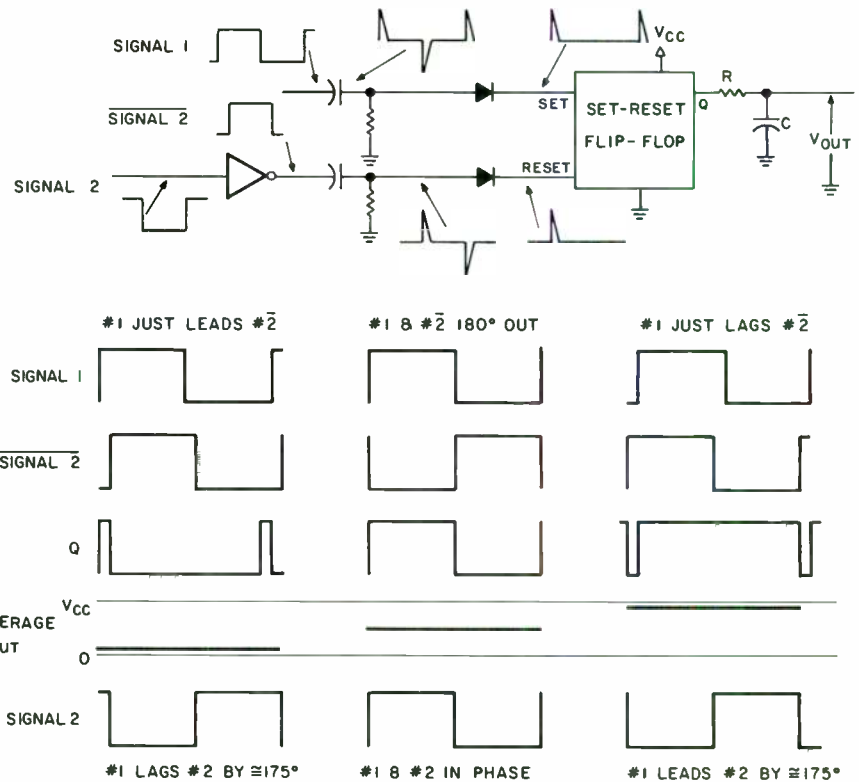

FIGURE III-1: Flip-Flop (FF) phase meter and waveforms.
FLIP-FLOP vs. EXOR. Figures III-1 and III-2 show two common ways of converting the squared up input signals into a phase reading. Figure III-1 shows the set-reset flip-flop (FF) approach, along with the waveforms involved. Signal 1 and inverted signal 2 (signal 2) are differentiated to get edges. One edge of each is used
Figure III-1 shows that V_{out} is zero for signal 1, lagging behind signal 2 (i.e., before the inverter) by 180 degrees. V_{out} is one-half scale when the signals are in phase, and it is full scale when signal 1 leads signal 2 by 180 degrees. This approach thus gives a full 360 degrees of phase coverage on the meter scale and has zero phase shift at center scale, which is a very convenient layout.